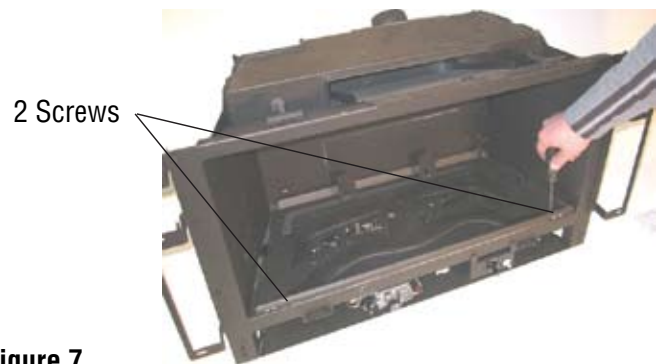

Figure 7
1. Remove log rack (2 screws) and install rear log on retainer. See Figures 7 & 8).